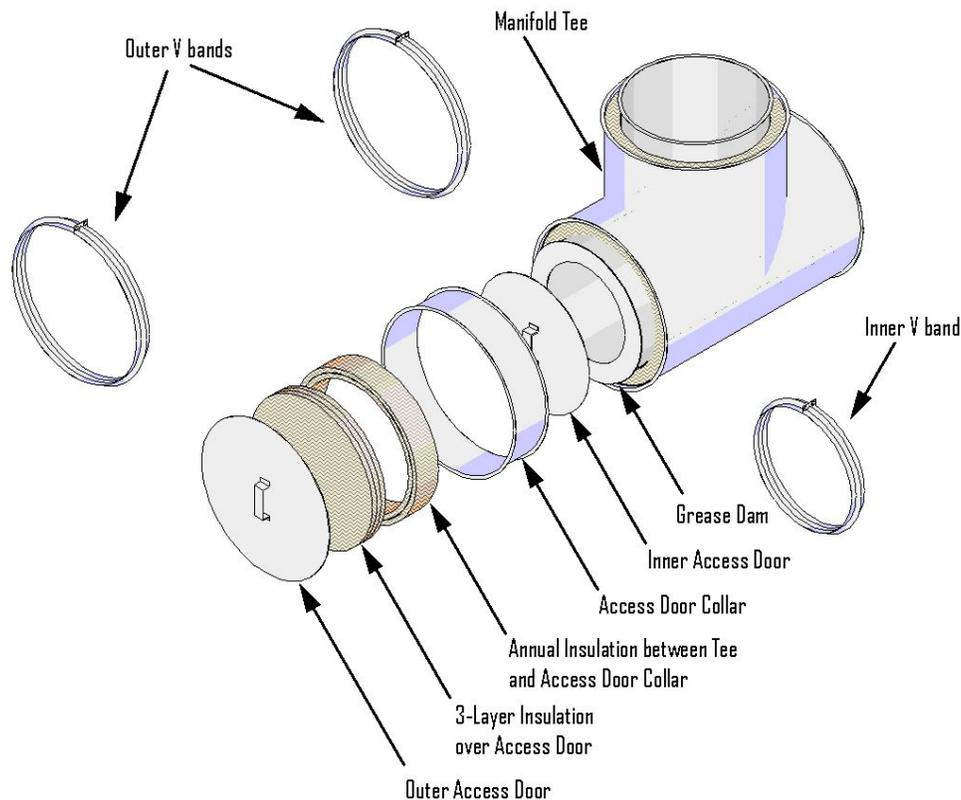

Figure 2. Access Door Assembly
- B. ACCESS DOOR –** When required, use the duct manufacturer's manifold tee and access door (tee cap) assembly (see Figure 2). Apply a 1/4 in. continuous bead of sealant (Item 2A) to the inner flange of the tee on the side where access door is to be located. Center the supplied grease dam over the opening of the tee. Verify that the grease dam is sealed to the tee flange by applying pressure. Remove excess sealant (Item 2A). When the sealant (Item 2A) is dry attach the supplied inner access door using a V band (Item 2B). Tighten 1/4-20 hardware to 40-60 in.lbs. Install access door collar to manifold tee with V band (Item 2B) and tighten the 1/4-20 hardware to 40-60 in.lbs. Install joint insulation (Item 2C) in the annular space created between inner duct and the access door collar, using the same insulation type and number of layers as required for other joints detailed in Item 2. Over the access door, install three layers of the supplied, circular, pre-cut, nominal 1 in. thick insulation of the same type and density as used in the pre-fabricated grease duct (Item 1). Secure outer access door to outer access door collar using V band (Item 2B); tighten the 1/4-20 hardware to 40-60 in.lbs.